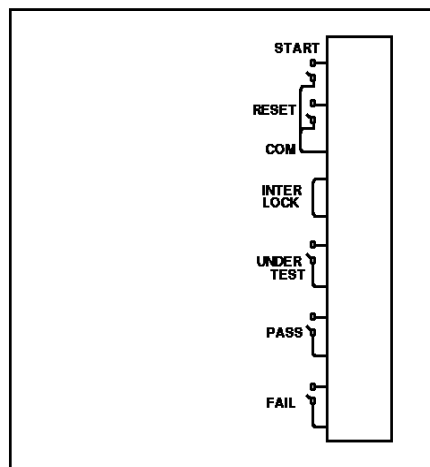

Figure 4-4
5. Pin diagram of REMOTE CONTROL as Figure 4-4. When users want to control by external, please remember this pin diagram.